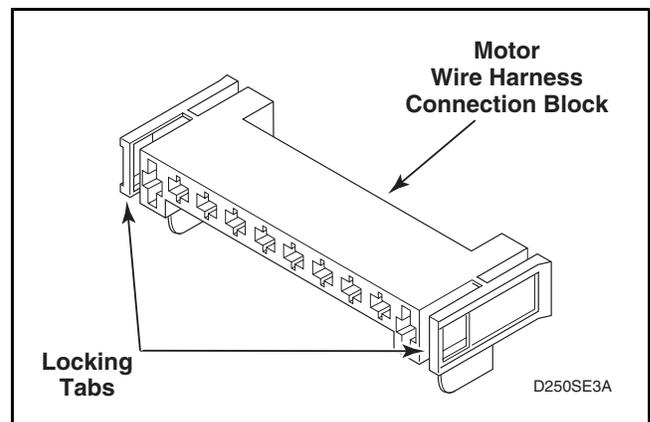

Figure 28
- Disengage motor wire harness terminal block from motor switch by pressing in on the movable locking tabs (located on each end of the terminal block) and pulling away from motor. Refer to *Figures 28* and *29*.
- (1) Disengage motor wire harness terminal block from the motor by pressing in on the movable locking tabs (located on each side of the terminal block) and pulling away from motor. Refer to *Figure 28*.